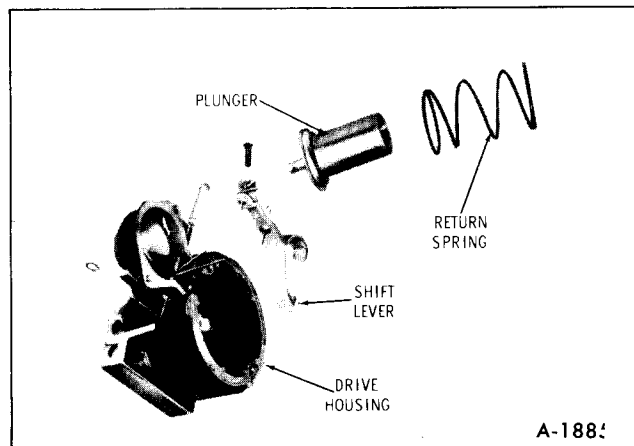

Figure 46—Shift Lever Removal
- b. To remove shift lever and/or plunger, remove shift lever pivot bolt (figure 46).
drive gear housing and install lever pivot bolt. (figure 46)